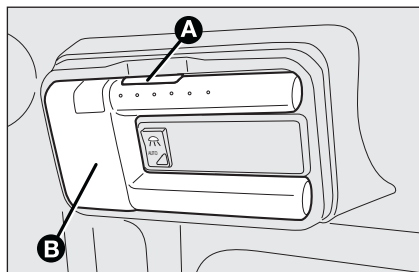

fig. 43
- ☐ press button **A**-fig. 43 and remove the removable ceiling light **B**;